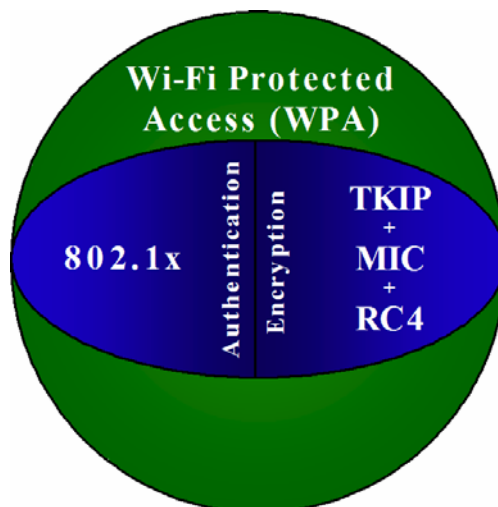

FIG. 96 WPA Overview
- To resolve problems with WEP, the Wi-Fi Alliance released WPA (FIG. 96) which integrated **802.1x**, **TKIP** and **MIC**. Within the WPA specifications the RC4 cipher engine was maintained from WEP. RC4 is widely used in SSL (Secure Socket Layer) to protect internet traffic.